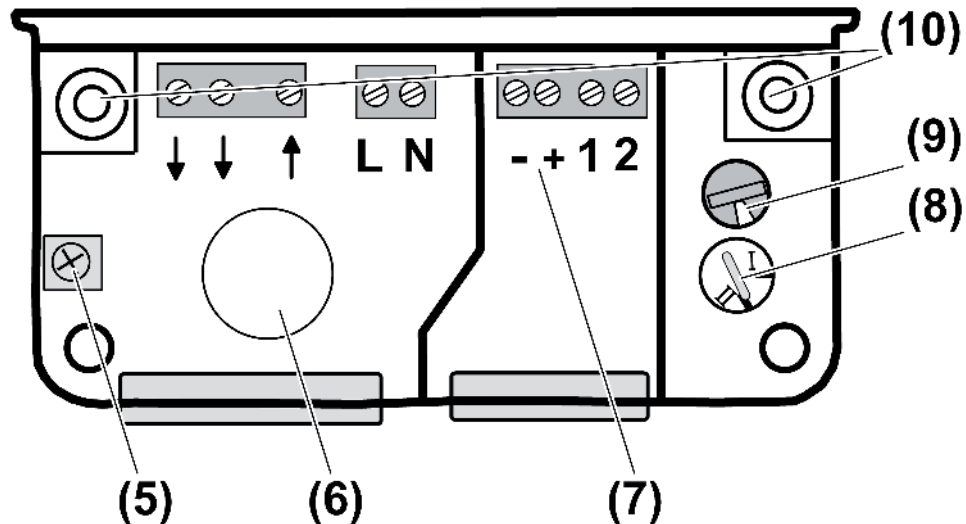

Figure 3: Evaluation unit connection compartment
- Remove the housing lid of the evaluation unit by slackening the two screws (3).
- For rear cable insertion, penetrate the rubber seal (6) and insert the cable (Figure 3).
- Turn the rotary switch to the (8) to the II position, factory setting (Figure 3).